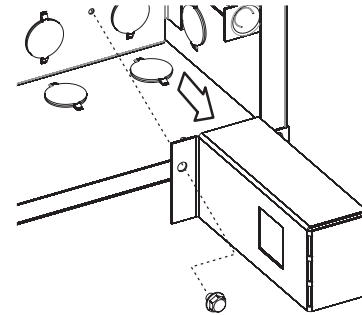

Figure 43
8. Remove junction box on right by removing single screw. **See Figure 43.**